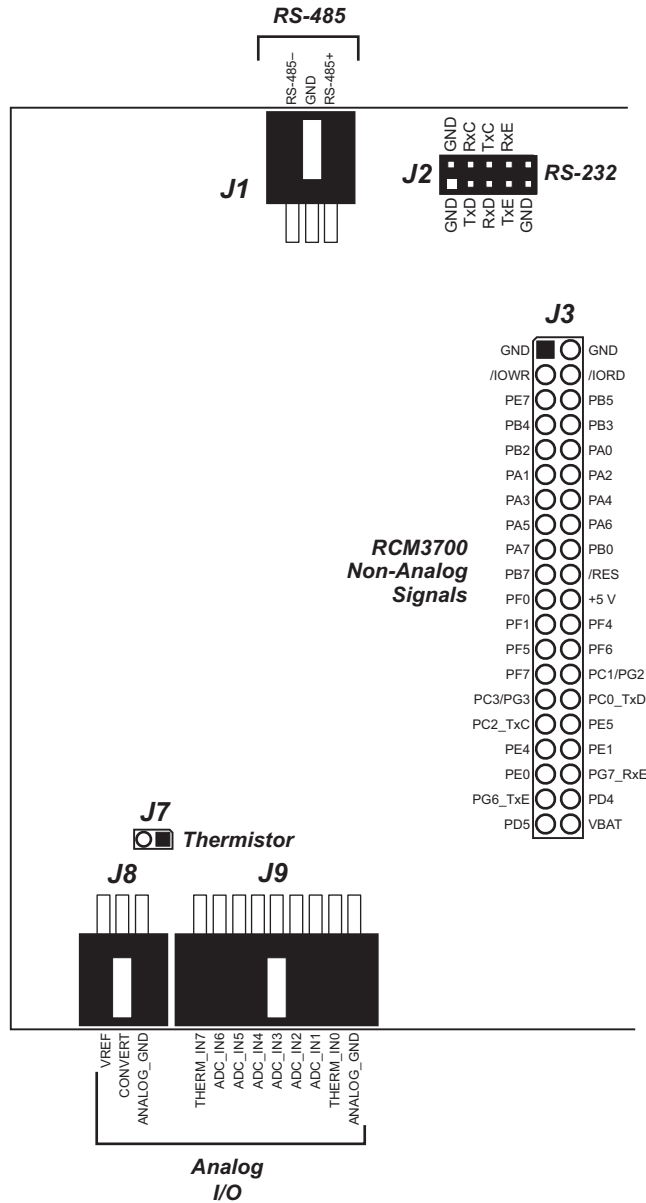

Figure B-4. RCM3700 Prototyping Board Pinout
- **Module Extension Headers**—The complete non-analog pin set of the RCM3700 module is duplicated at header J3. Developers can solder wires directly into the appropriate holes, or, for more flexible development, a 2 × 20 header strip with a 0.1" pitch can be soldered into place. See Figure B-4 for the header pinouts.
- **Analog I/O Shrouded Headers**—The complete analog pin set of the RCM3700 Prototyping Board is available on shrouded headers J8 and J9. See Figure B-4 for the header pinouts.
Figure B-4 shows the RCM3700 Prototyping Board pinouts.
Analog input THERM_IN7 on the Prototyping Board was designed specifically for use with a thermistor in conjunction with the `THERMISTOR.C` sample program, which demonstrates how to use analog input THERM_IN7 to calculate temperature for display to the Dynamic C **STUDIO** window. The sample program is targeted specifically for the thermistor included with the Development Kit with $R_0 @ 25^\circ\text{C} = 3 \text{ k}\Omega$ and $\beta 25/85 = 3965$. Be sure to use the applicable R_0 and β values for your thermistor if you use another thermistor. Install the thermistor at location J7, which is shown in Figure B-4.